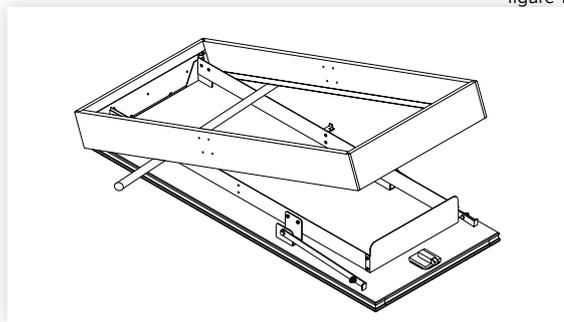

figure 2
2. Release the latch holding the lid to the frame. Lift the frame away from the lid and prop open with temporary support (figure 2).